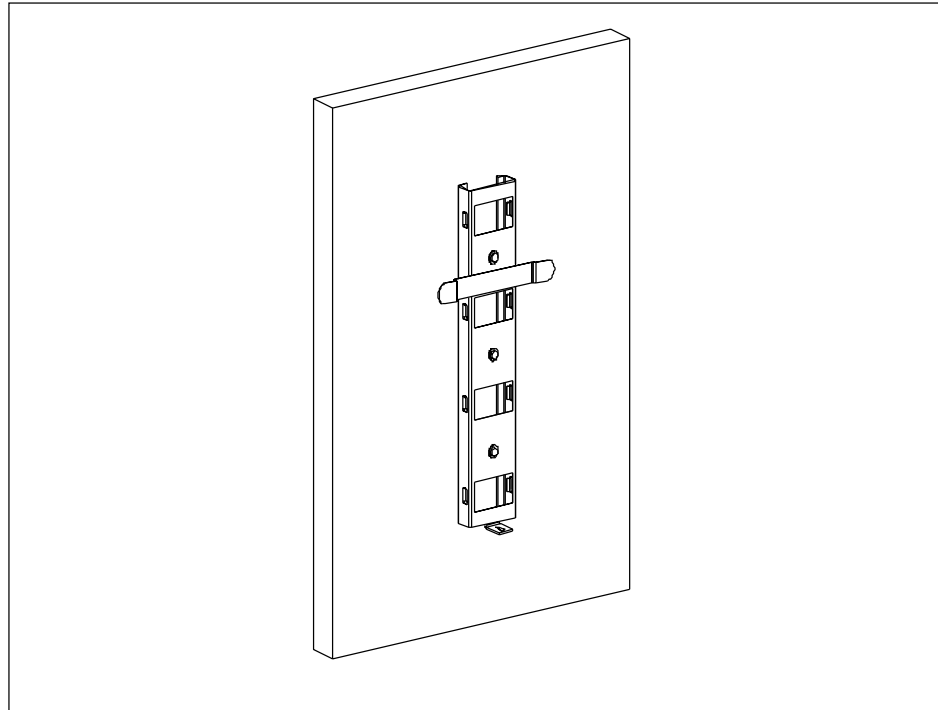

Figure 4-8. Installing Cross Arm to Wall
- Secure the bracket to the wall using an appropriate anchor. See Figure 4-8 on page 4-20. Level the bracket before tightening the bolts.